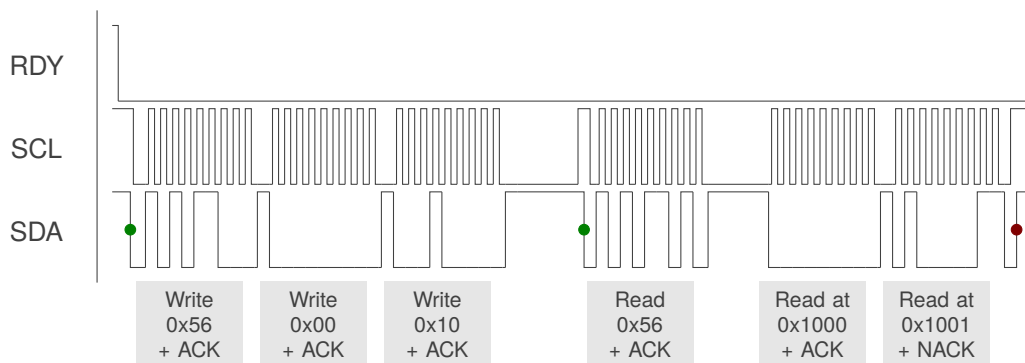

Figure 12.1: I²C Read Example — Read System Control Registers 0x1000 and 0x1001
A typical read operation is displayed in Figure 12.1. The master device waits for the RDY line of the IQS397 to go low, indicating the availability of new data and an available communication window. Once the RDY interrupt is triggered, the master initiates communication by sending a start condition followed by the device address and a write command. The IQS397 responds with an acknowledgement, after which the master device will transmit two bytes defining the register address. The master then sends a repeated start condition, followed by the device address with a read command. The IQS397 transmits data from the requested address and will continue to do so while the master acknowledges each byte. The read operation is ended when the master does not acknowledge the last byte received and produces a stop condition.
- > Read the *System Control* Registers (0x1000 and 0x1001) as illustrated in Figure 12.1.
With the *Terminate Comms Window* setting enabled in the *Power Settings* register, a standard I²C STOP ends the current communication window. If multiple I²C transactions need to be done, then they should be strung together using repeated-start conditions instead of giving a STOP. Allowing an I²C STOP to terminate the communication window is the recommended method, as illustrated in Figures 12.1 and 12.2.